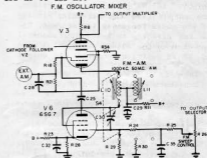

Figure 2.6 FM Oscillator - Mixer
B. As shown in Figure 2.6, one half of the type 6SN7 tube, V3, is used as a triode r-f oscillator to operate at either 1 mc, when utilizing inductance L10, or at 50 mc, when utilizing inductance L11. Either of these signals may be frequency modulated by means of the type 6SG7 reactance tube, V6. The 6SG7 circuit is the electronic equivalent of the mechanically operated variable capa-